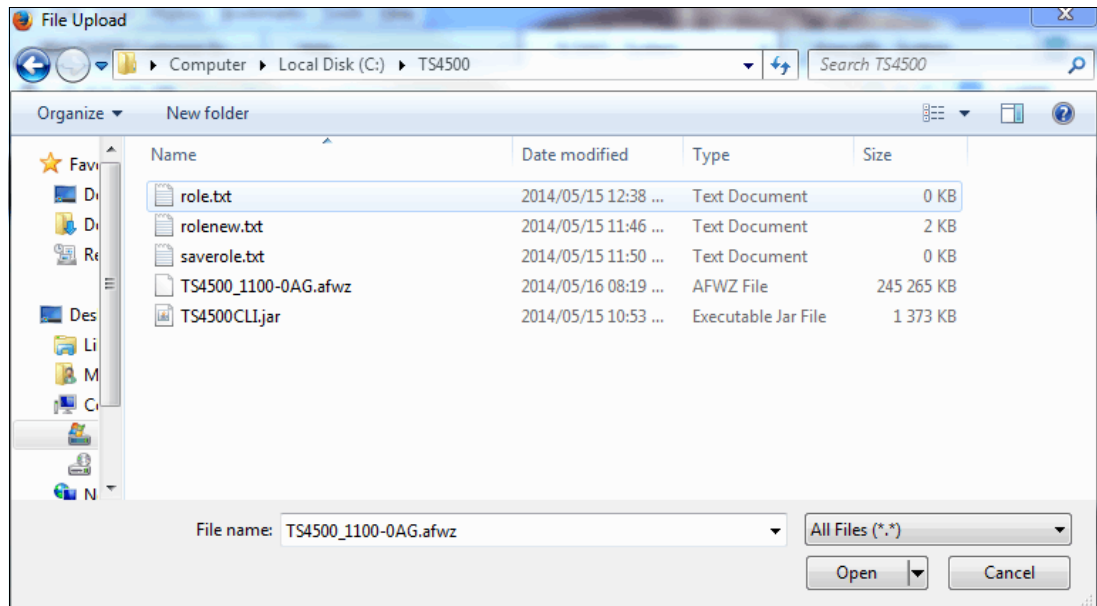

Figure 4-167 File Upload
2. On the File Upload window, browse to the library firmware image and click **Open**, as shown in Figure 4-167.